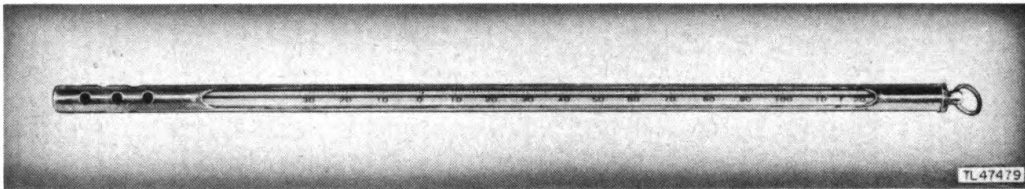

Figure 26. Thermometer and case.
32. THERMOMETER AND CASE (fig. 26).